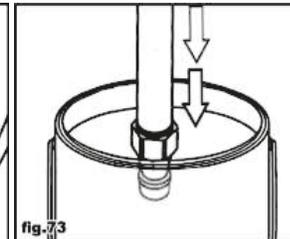

fig.73
- Submerge suction tube in water or flushing fluid (fig.73)